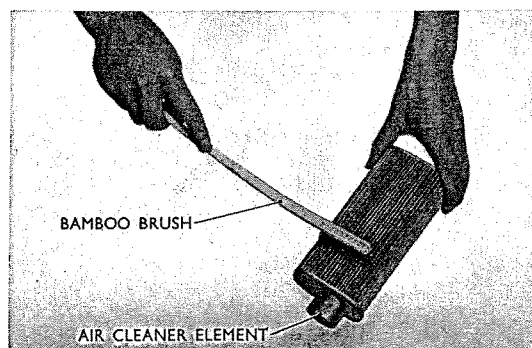

Fig. 6.24 Cleaning the air cleaner
c. Clean with a brush or with compressed air. (Refer to Fig. 6.24)